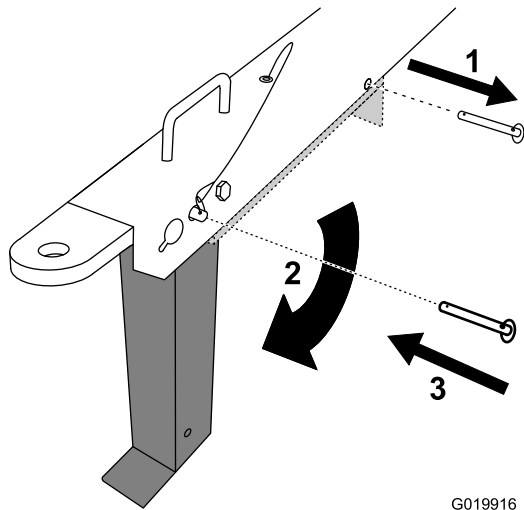

Figure 31
- Pull the clevis pin out from the front stabilizer leg and the tongue (Figure 31).
- Rotate the front stabilizer leg down toward the ground (Figure 31).
- Push the clevis pin through the front hole in the tongue and the front stabilizer leg (Figure 31), and carefully lower the machine to the ground.